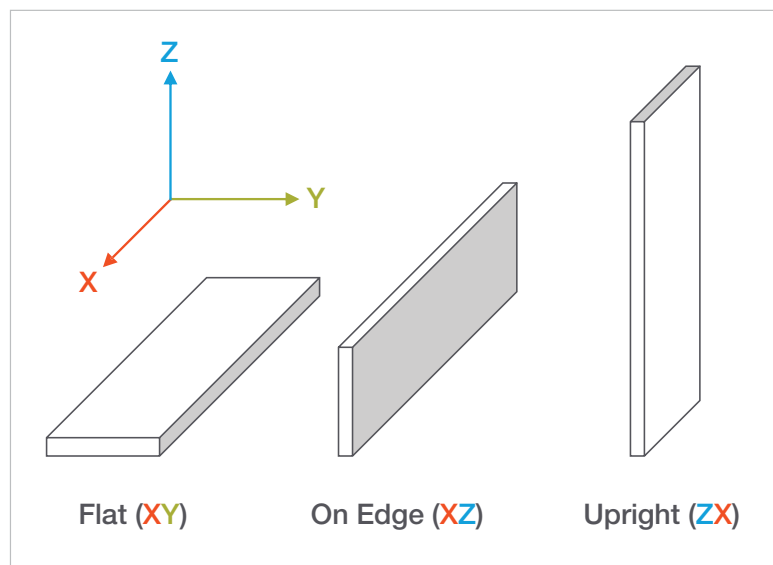

Figure 1: Print orientations.
For Stratasys Preferred Materials, mechanical test samples were printed ten (10) samples per machine utilizing three (3) different machines, resulting in thirty (30) total samples per test for each orientation. Both on-edge (XZ) and upright (ZX) (Figure 1) orientations were tested.